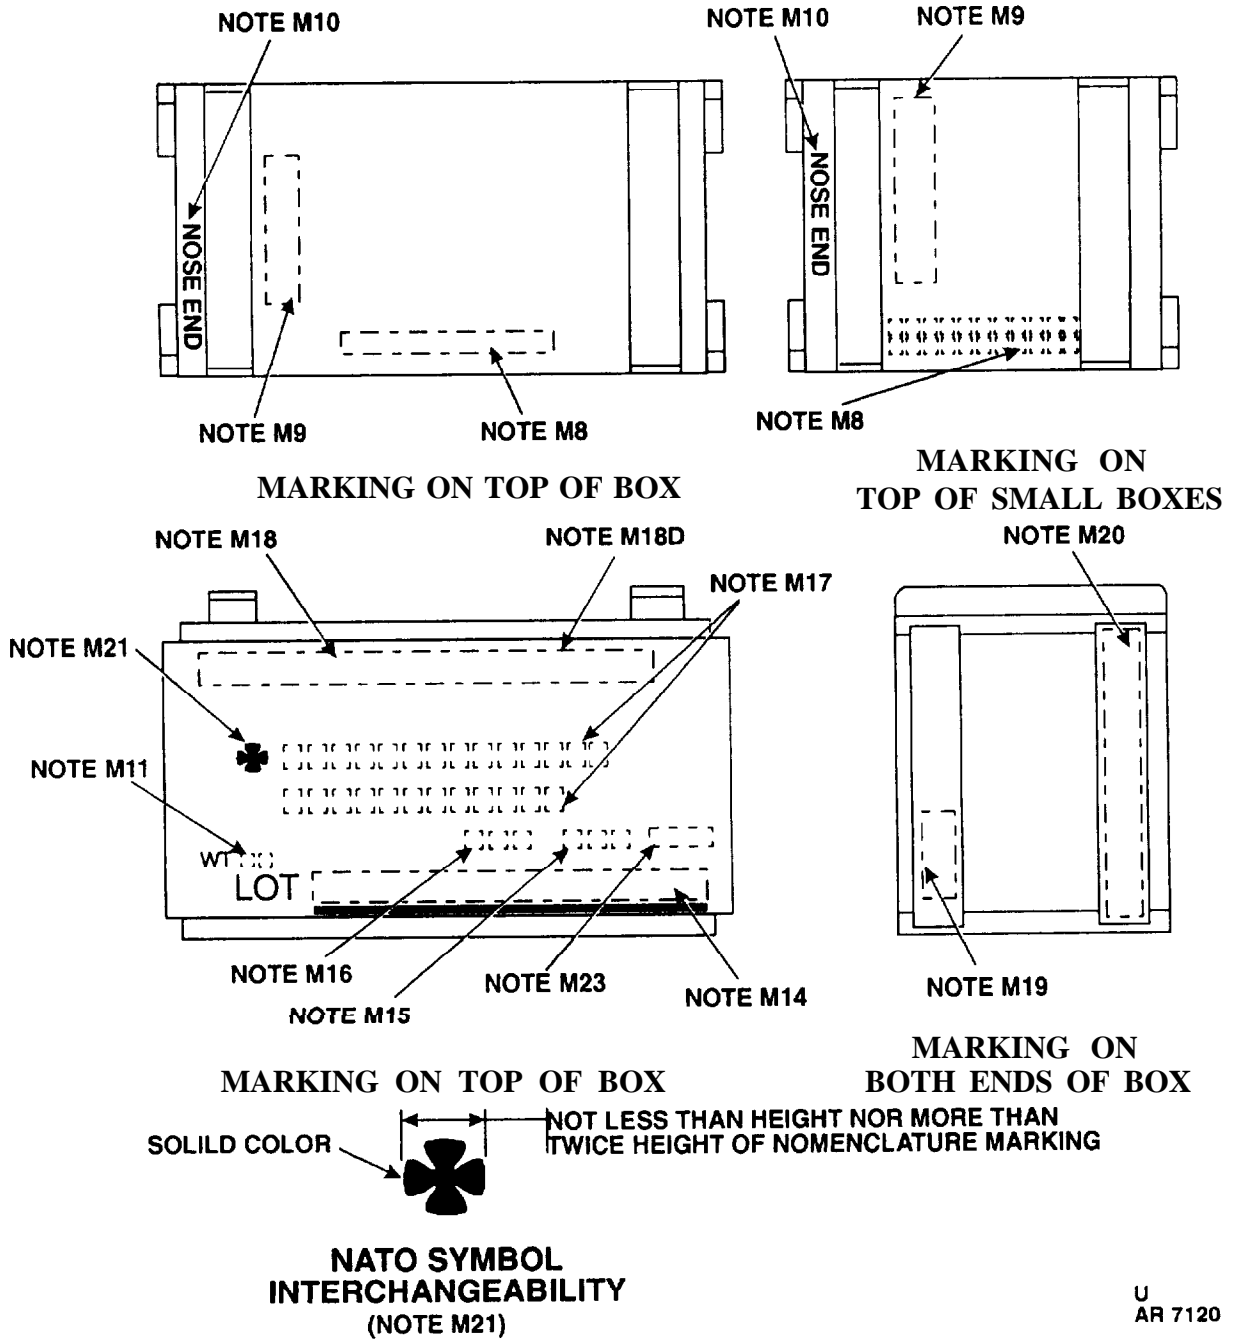

Figure 4-1. Woodbox - location of markings.
(1) When re-marking ammunition, the nomenclature, DODIC, and lot number must be accurately maintained.
(2) The above information must also be accurately reflected on re-marked ammunition boxes and containers. In addition, the DOT/UN shipping information must be accurately stenciled on the boxes. The old DOT shipping classes and markings have been replaced by the UN serial number (code) and proper shipping name. For ammunition boxes shipped within CONUS, the DOT markings may be used without updating until the year 2001, but the UN markings must be on all boxes shipped OCONUS. Because of these requirements, it is advisable that all ammunition boxes and containers being re-marked have the UN markings added. The UN markings may be placed over old markings that have been obliterated (using the sand paint listed in 4-7a.) or in a vacant area near the old DOT markings. The new and the old markings are given in Table 4-2 for all standard issue demolition items. The full requirements for marking ammunition boxes are given in figure 4-1. Container markings are similar and the old container markings can be used as a guide for placement, etc. Full re-markings may not be required on all items. Such items may have markings "touched-up" per procedures of TM 9-1375-213-12&P if this is acceptable to the local Quality Assurance Ammunition Surveillance (QASAS).
- For specific markings, see tables 4-1 and 4-2. For location of markings refer to figure 4-1 and table 4-3.
(1) Rubber-type method.